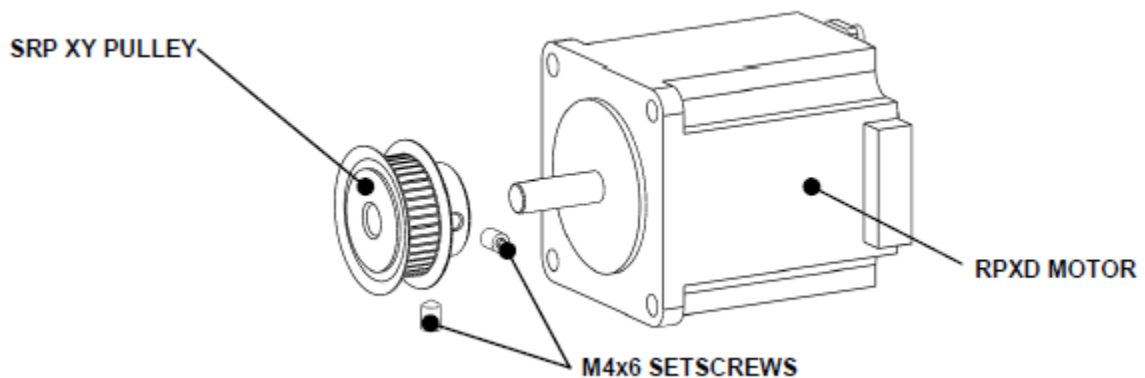

Figure Q-14: Mounting the Pulley
1. Take an SRP XY Pulley remove and discard any set screws that come with it and fit two M4x6 Set Screws with Loctite 222. Slide the pulley on the Reagent Pipettor X Drive Motor (50800240) (Figure Q-14).